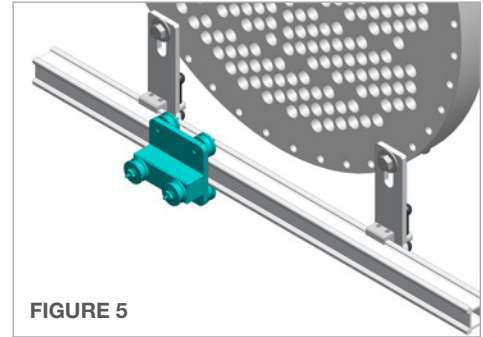

FIGURE 5
5. Slide the **Idler Carriage** onto the Lower Non-Slotted Rail. **(Figure 5)**